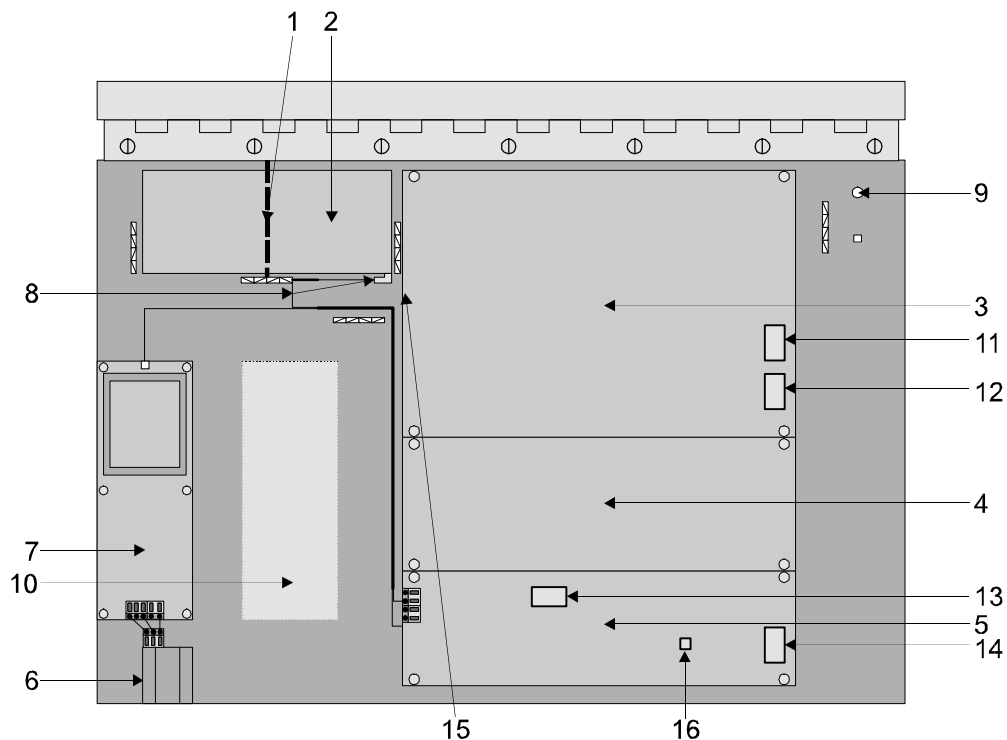
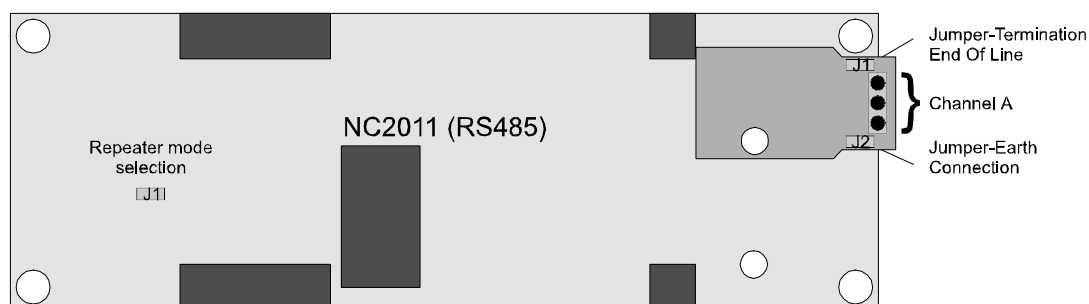
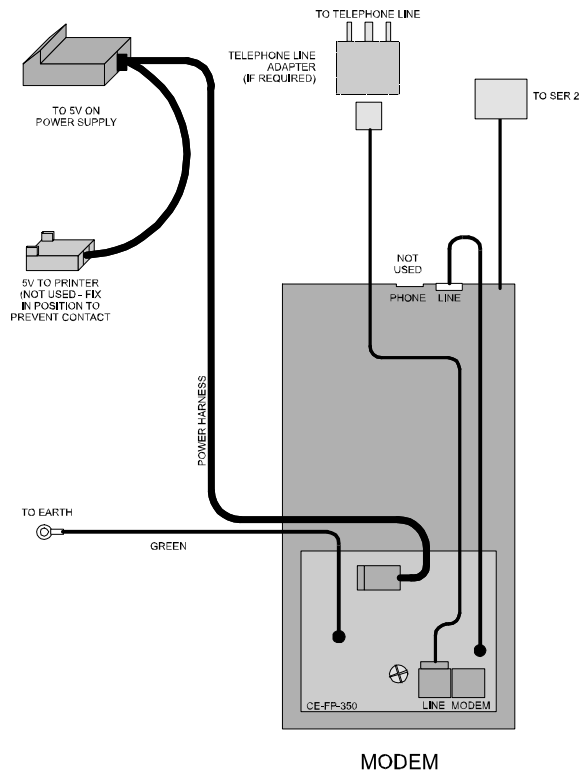

Figure 3: Universal Node UN2011
Figure 4: Network Card Connections
Figure 6: Modem MOD2000 Interconnection Diagram
The Universal Node UN2011 consists of the following (refer to Figure 3):
5.3.1 Configuring and connecting the Arcnet Card to the FP2000 Network (refer to Figure 3 and Figure 4).
3. Remove the protective cover from the double sided self adhesive tape and position the battery as shown in Figure 3. Fix it in position with the strap provided. Ensure that the strap is sufficiently tightened to prevent it from coming lose.
5.3.4 Connecting the RS232 External System (refer to Figure 3)
5.3.5 Connecting the Modem to the Universal Node and a Telephone Line (refer to Figure 3 and Figure 6)
The MOD2000 modem is provided with a bracket for wall mounting. For installing this bracket into the Universal Node (refer to Figure 3):
2. Position the mounting bracket inside the Universal Node as shown in Figure 3 and fix in position using the double sided self adhesive tape.
4. Carefully study the Modem User's Manual. For connecting the Modem to the Universal Node and Telephone Line (refer to Figure 2, Figure 3 and Figure 6).